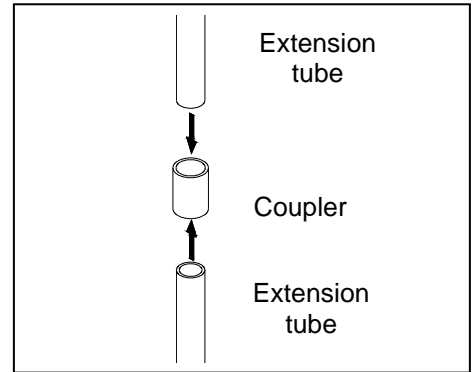

Fig. 5
5. Connect the two extension tubes with the coupler. Fig. 5